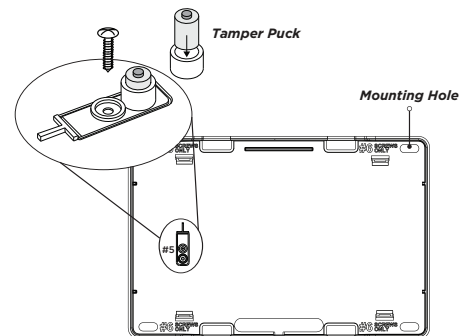

Figure 1: Inside of the 1100R Housing
2. Secure the 1100R to the wall using the supplied screws in the mounting hole locations shown in Figure 1.